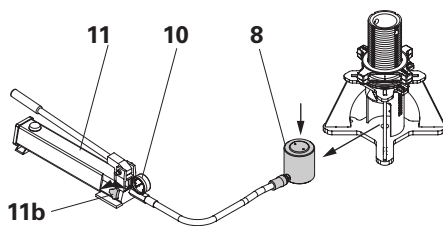

Fig. 27
1. Turn pump valve (11b) in a counter-clockwise direction, completely retract the cylinder (8). System is depressurized. (Fig. 27)
3. Monitor the display on the manometer (10).
4. Remove cylinder (8) from the Lowering Jack HD. (Fig. 27)